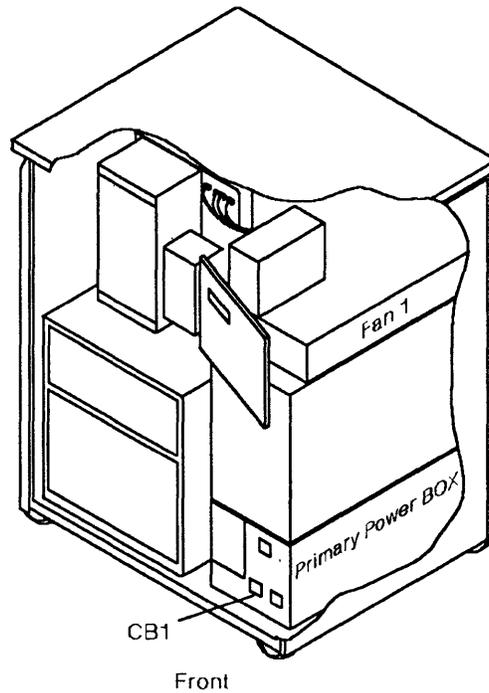

Figure 4-66. Fan 1 and CB1 Locations
4. Switch CB1 OFF. Refer to Figure 4-66.
5. Locate Fan 1. Refer to Figure 4-66.